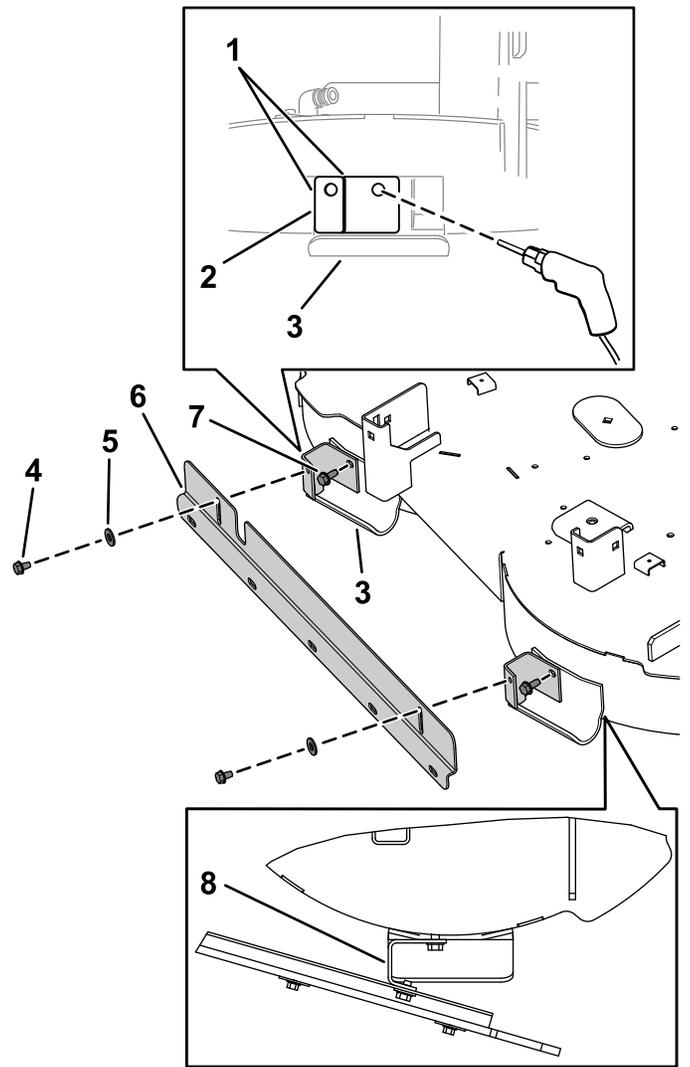

Figure 1
- A. Locate the right skid on the rear of the mower deck (Figure 1).
Align the left edge of the mounting bracket with the left edge of the skid and the top edge of the mounting bracket with the top edge of the right skid (Figure 1).
- C. Mark the outline of the mounting-bracket hole on the skid (Figure 1).
- E. Drill a hole (9/32 inch) in the right skid at the center-punched location (Figure 1).
- G. Secure the bracket using a washer-head screw (5/16 x 3/4 inch, self-threading) as shown in Figure 1.
- A. Locate the left skid on the rear of the mower deck (Figure 1).
- B. Position the longer leg of the mounting bracket for the striping kit against the left skid. Align the left edge of the mounting bracket with the left edge of skid and the top edge of the mounting bracket with the top edge of the left skid (Figure 1).
1. Align the striping bracket so that the mounting flange is up and facing toward the mower deck (the wiper flange is down and away from the deck) as shown in Figure 1.
2. Align the top of the slot in the mounting flange of the striping bracket with the hole in the short leg of each mounting bracket installed on the skids (Figure 1).
1/2 inch, self-threading) and 2 flat washers (5/16 inch) as shown in Figure 1.